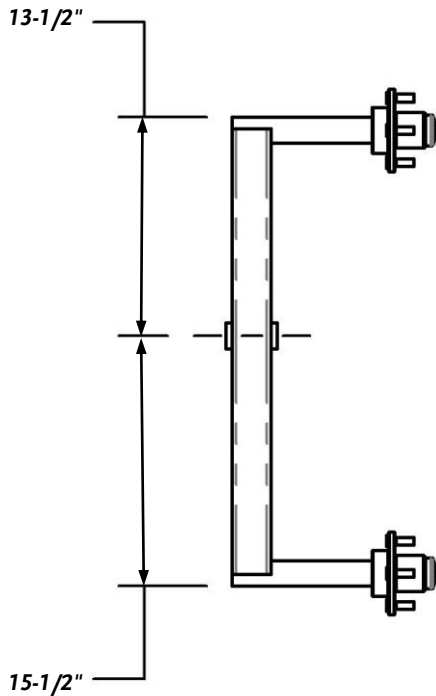

Figure 5
1. Measure the Axles to determine the correct orientation for installation on the Trailer. The longer portion of the Axle (**Figure 5**) should face the Front of the Trailer.